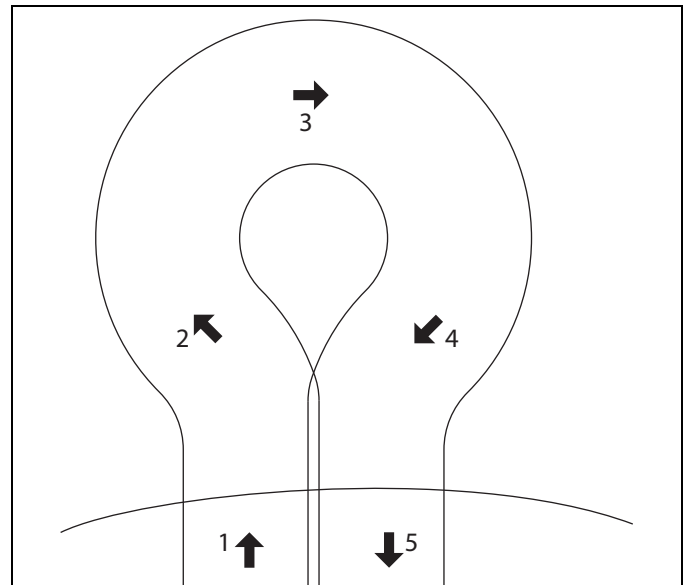

Figure 5C
- e. To turn to the right, start by turning mower slightly to the left (**2**). When the mower has moved approximately 1/2 its own width to the left, swing it around quickly to the right (**3 and 4**), guiding the mower with your right hand. This method makes it possible to turn around quickly with very few steps. **[Figure 5C].**